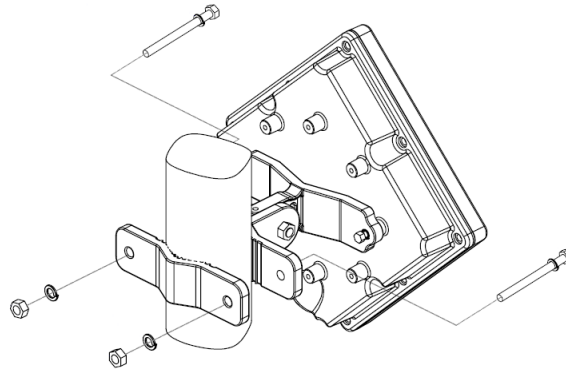

Figure 4
5. Attach the ODU to a 1" -4" pole. Attach the clamp to the other side of the pole. Thread the M8*100mm bolts through both clamp holes on either side using spring washers. Tighten the bolts using nuts and spring washers. (Figure 4)